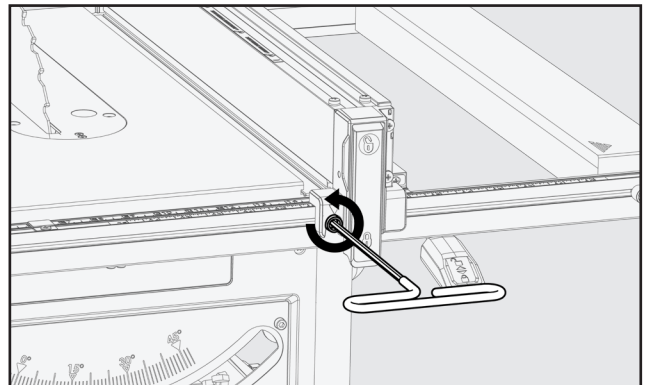

Figure 36
4. Using supplied 4mm Allen wrench in a counter-clockwise motion, loosen both front and rear extension tabs. See Figure 36.